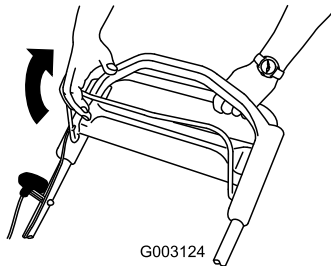

Figure 21
2. Pull the blade control bar to the handle (Figure 21).